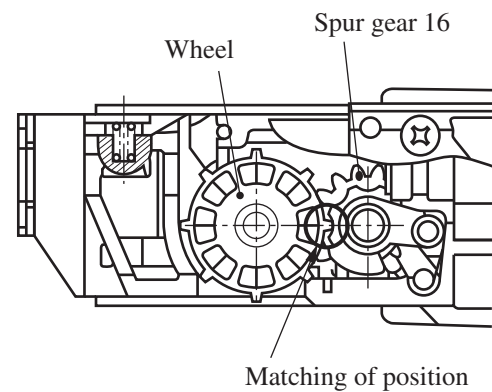

Fig.3
(1) Do not apply any grease, lubrication oil or anticorrosive oil to rotating and sliding parts. Otherwise the intruding dust can stick to such oil, and it may be cause of the trouble on the feeder.
(2) When attaching wheel and spur gear 16, engage wheel nail with arc part of spur gear 16, and then, install them into feeder box. (see Fig.3) After installation, check whether they rotate, by pressing the center of wheel with a finger.